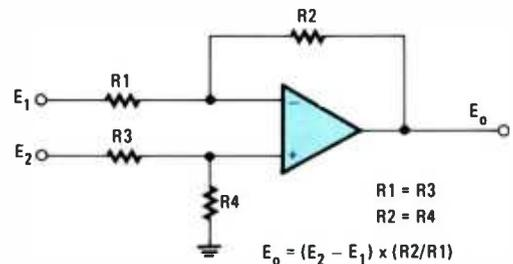

Fig. 8—A differential amplifier algebraically sums the two input signals and provides voltage amplification.
21. (2) Most op-amps have a differential input. When signals are applied to both inputs the output is the difference between the two. Resistors can be connected to the op-amp to set the gains of the inputs. A typical arrangement is shown in Fig. 8. If all resistors are made equal in value, the output (E_o)